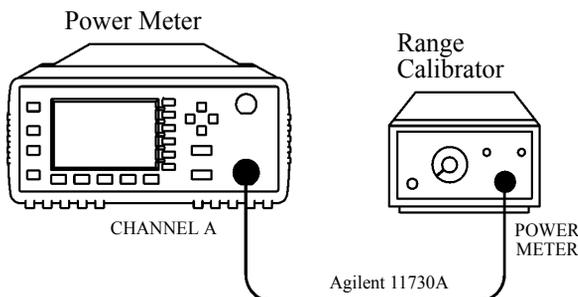

Figure 2-2: Instrument Accuracy Test Setup
1. Connect the equipment as shown in Figure 2-2.